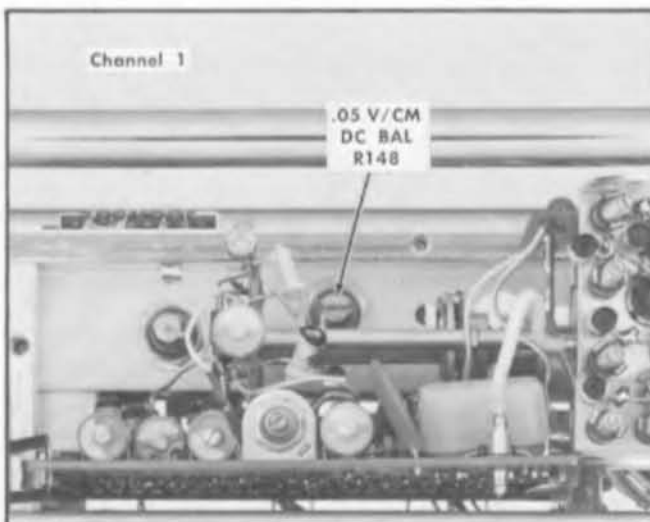

Fig. 7-4. Step 2 adjustment location.
- d. ADJUST—Channel 1 .05 VOLTS DC BAL control (see Fig. 7-4) to vertically position the trace to coincide with graticule center.